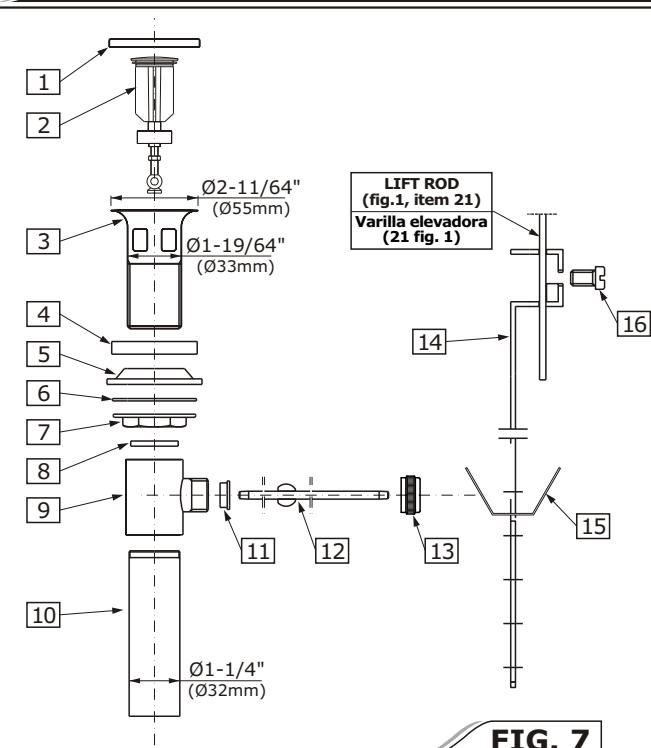

FIG. 7
See fig. 7
- Dismantle the drain assembly to the parts shown on fig. 7.
- Insert collar gasket (4) and drain collar (3) into drain hole of a bidet. From underneath the bidet slip under-bowl gasket (5) into drain collar (3), washer (6) and flanged nut (7).
- Position under-bowl gasket (5) correctly under the bidet and screw flanged nut (7) firmly but do not overtighten.
- Make sure washer (8) is inside drain body (9) and screw drain body (9) onto drain collar (3) hand tighten only.